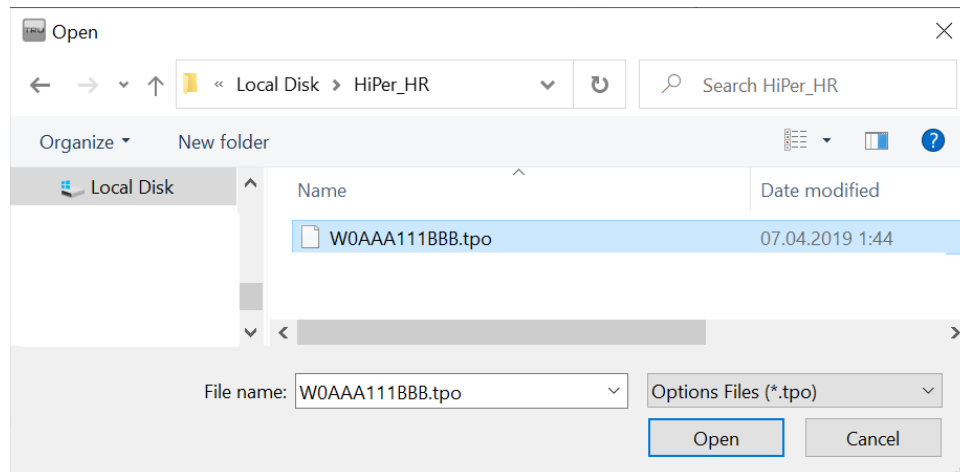

Figure 5-11: Load OAF
4. Select the appropriate file, and select **Open** (Figure 5-11).